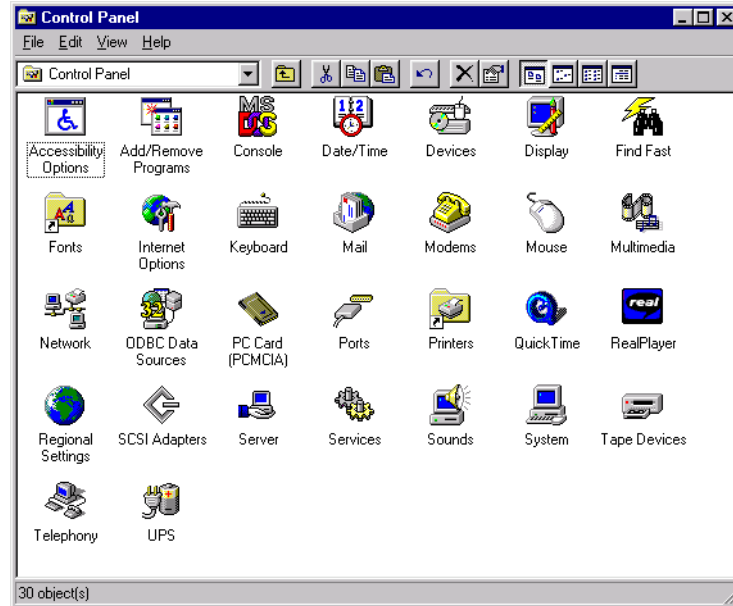

Figure B-18: Control Panel
2. In the Control Panel (Figure B-18), double-click the ODBC icon.